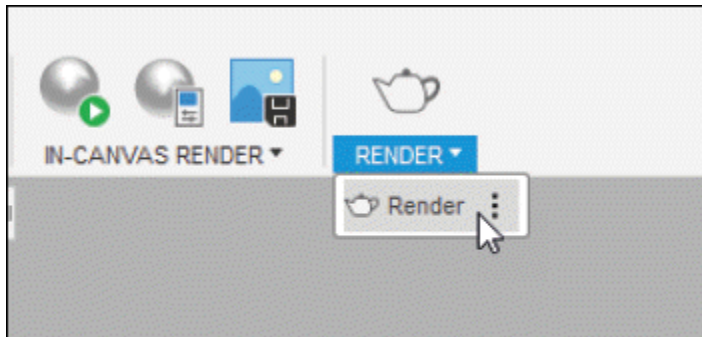

Figure-20. Render tool
- Click on the **Render** tool from **Toolbar**; refer to Figure-20. The **RENDER SETTINGS** dialog box will be displayed; refer to Figure-21.